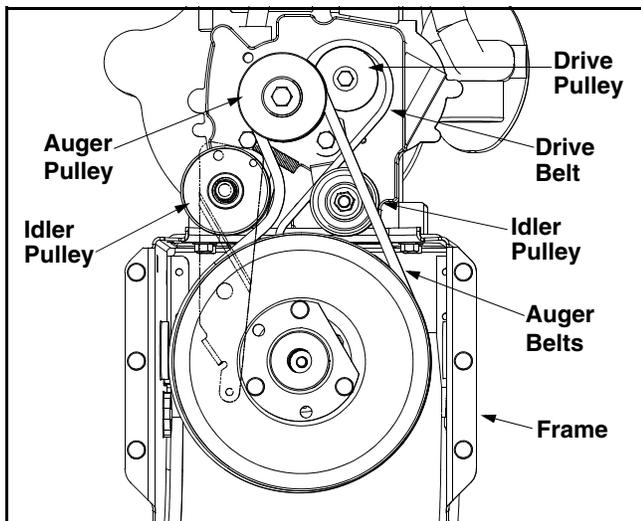

Figure 19
- Roll the front and rear auger belts off the engine pulley. See Figure 19.
- Pull the idler pulley up and lift the belt off the engine pulley and friction wheel disc. See Figure 19.